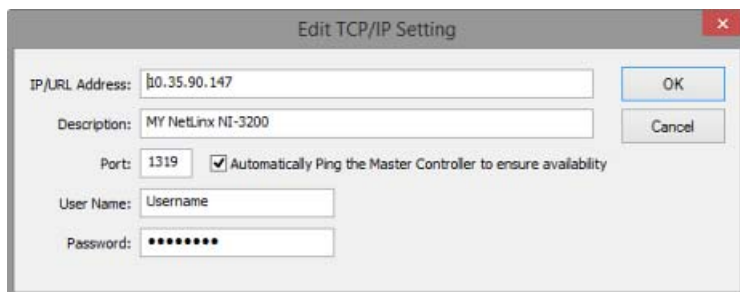

FIG. 16 Edit TCP/IP Setting dialog
4. Click the **Edit** command button to open the *Edit TCP/IP Setting* dialog (FIG. 16):